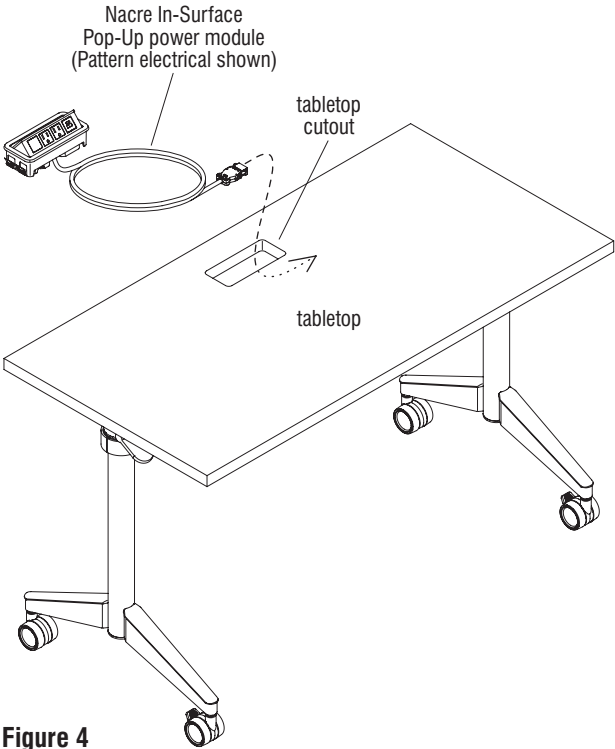

Figure 4
2. With the assembled table in the upright position, orient the Nacre In-Surface Pop-Up power module as shown and route the connector end (or plug end) down through the tabletop cutout. Press the module down firmly into the cutout to secure in place, making sure the two clips on each side of the module catch under the cutout bottom edge of the tabletop (Figure 4 & Detail J).